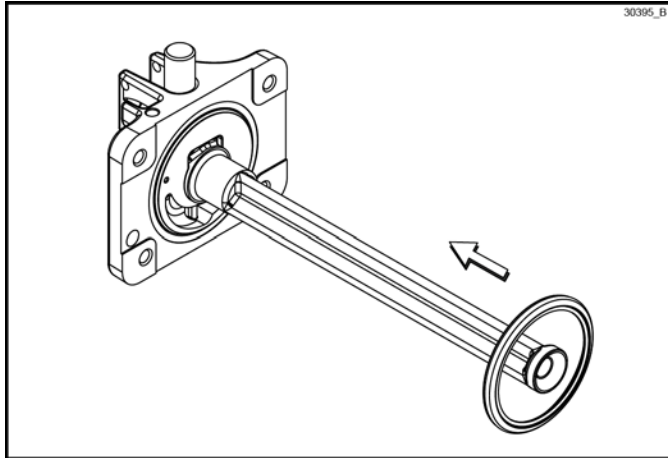

Figure 6-29
13. Place the door gasket into the groove on the back of the freezer door. Install baffle by raising round end while engaging lug into door pocket. Lower round end to secure to door. **Do not** lubricate the gasket. (See Figure 6-29.)